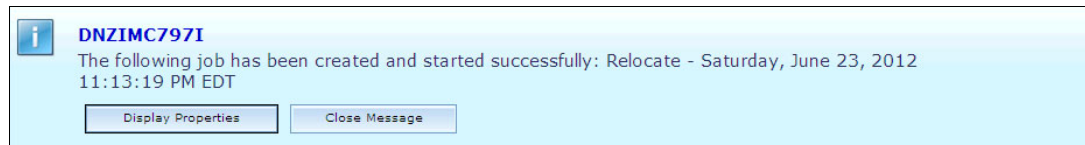

Figure 9-163 Display Properties window
5. Click **Display Properties** to check the relocation status as shown in Figure 9-163.